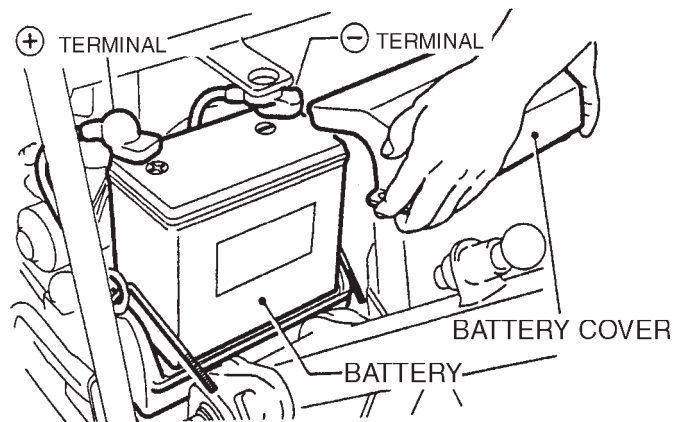

Figure 30. Battery Maintenance
- Take off the battery cover by removing the M6 nuts (Figure 30).
- When removing cable, disconnect the ground side (normally negative) first (Figure 30).